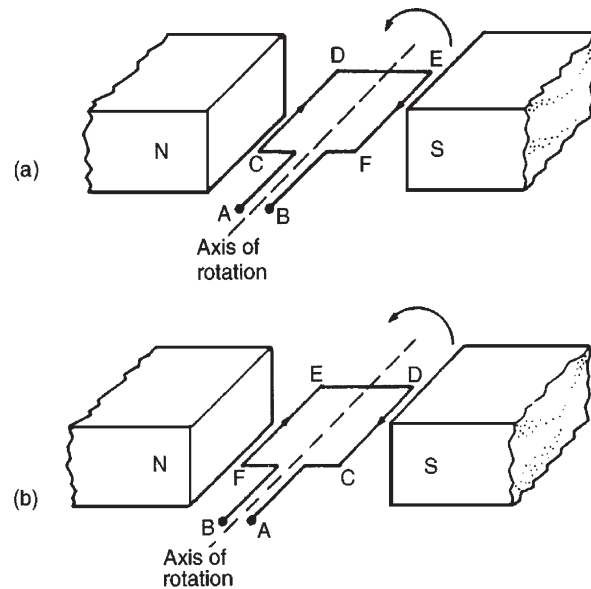

Figure 22.1
In an electric motor, conductors rotate in a uniform magnetic field. A single-loop conductor mounted between permanent magnets is shown in Fig. 22.1. A voltage is applied at points A and B in Fig. 22.1(a).
A force, F , acts on the loop due to the interaction of the magnetic field of the permanent magnets and the magnetic field created by the current flowing in the loop. This force is proportional to the flux density, B , the current flowing, I , and the effective length of the conductor, l , i.e. $F = BIl$. The force is made up of two parts, one acting vertically downwards due to the current flowing from C to D and the other acting vertically upwards due to the current flowing from E to F (from Fleming's left-hand rule). If the loop is free to rotate, then when it has rotated through 180° , the conductors are as shown in Fig. 22.1(b). For rotation to continue in the same direction, it is necessary for the current flow to be as shown in Fig. 22.1(b), i.e. from D to C and from F to E. This apparent reversal in the direction of current flow is achieved by a process called **commutation**.
- (iii) **field windings**, i.e. many turns of a conductor wound round the pole core; current passing through this conductor creates an electro-magnet (rather than the permanent magnets shown in Figs 22.1 and 22.2),